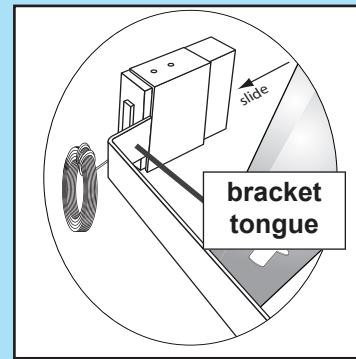

FIG. 4-3 Attach
- Slide source/sensor onto tongue of bracket until it clicks into place (Fig. 4-3).